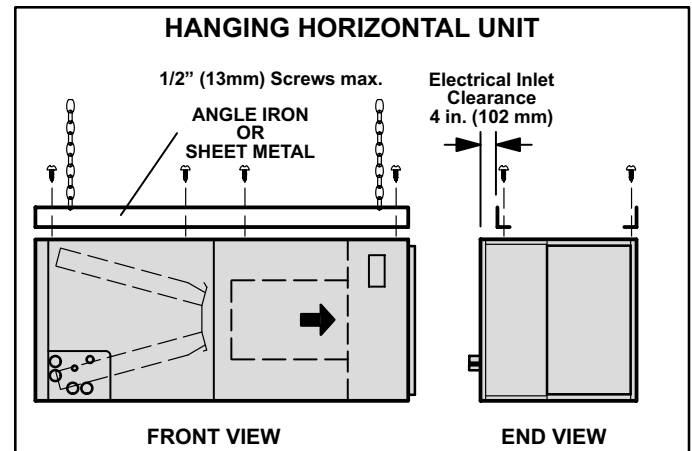

FIGURE 27
- 4- If hanging the unit, it must be supported along the entire length of the cabinet. If using chain or strap, use a piece of angle iron or sheet metal attached to the unit (either above or below) so that the full length of the cabinet is supported. Use securing screws no longer than 1/2" (13mm) to avoid damage to coil or filter. See figure 27. Connect return and supply air plenums as required using sheet metal screws.
- 12- If hanging the unit, it must be supported along the entire length of the cabinet. If using chain or strap, use a piece of angle iron or sheet metal attached to the unit (either above or below) so that the full length of the cabinet is supported. Use securing screws no longer than 1/2" (13mm) to avoid damage to coil or filter. See figure 27. Connect return and supply air plenums as required using sheet metal screws.